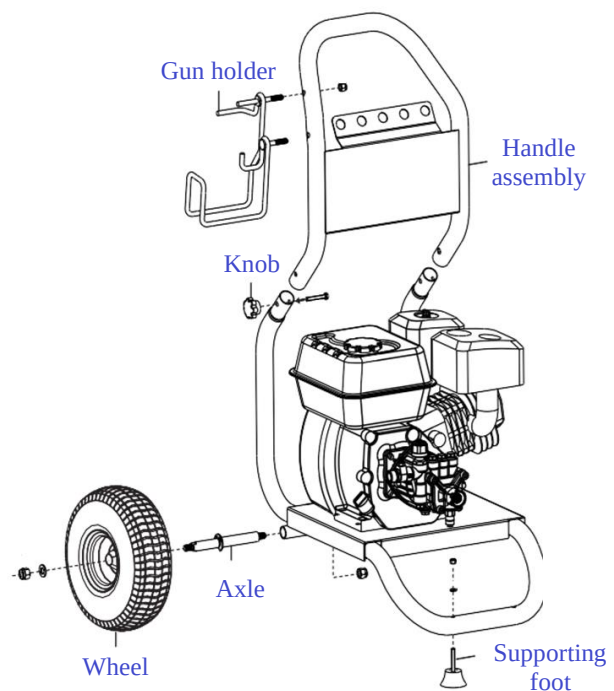

Fig. 2
4.2- Assembly - PRNHP21T (as illustrated in Fig. 2)